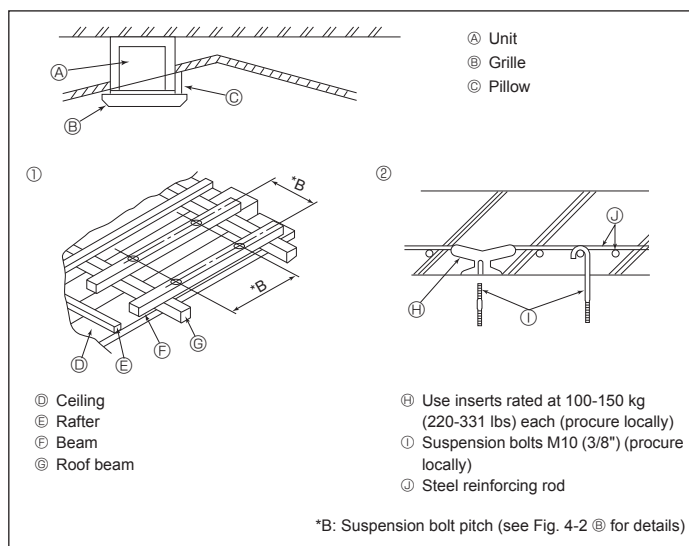

Fig. 4-4
4.4. Suspension structure (Give site of suspension strong structure) (Fig. 4-4)
① Wooden structures
② Ferroconcrete structures